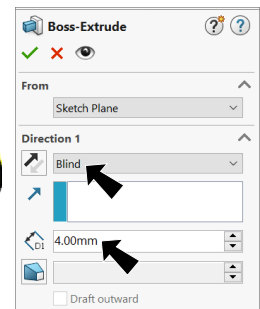

**Fig. 2**
Step 4. Sketch a circle starting at the Origin , **Fig. 2**.
Step 5. Click **Smart Dimension** (S) on the Sketch toolbar.
Step 6. Dimension circle **diameter 160**, **Fig. 2**.